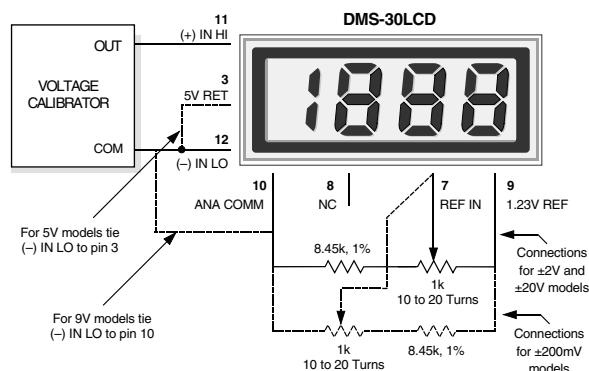

Figure 9. External Gain Adjustment
7. **Gain Adjust:** There is a gain-adjust potentiometer on the back of each meter. It has approximately ± 50 counts ($\pm 2.5\%$) of adjustment range. Since these devices essentially have no zero/offset errors, a gain adjustment is effectively an overall accuracy adjustment. Though they may be performed at any point (except zero), accuracy adjustments are most effective when performed with higher level input signals. Refer to Figure 9 for applications requiring greater ($\pm 10\%$) gain adjustments.
- External Gain Adjustment:** Connect REFERENCE OUT (pin 8) to REFERENCE IN (pin 7) for normal, factory calibrated, operation. Use the +1.23V REFERENCE OUT (pin 9) for applications needing external gain adjustment. Figure 9 shows the wiring configuration for each model. Calibration is performed with a precise, near-full-scale, input voltage.